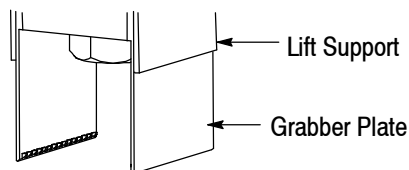

Figure 2
1. Rotate the handle *counter-clockwise* until the ends of the lift supports are well above the ends of the grabber plates. Refer to Figure 2.